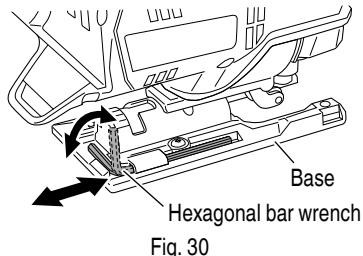

Fig. 30
- It is possible to house the auxiliary hexagonal bar wrench on the base (Fig. 30).